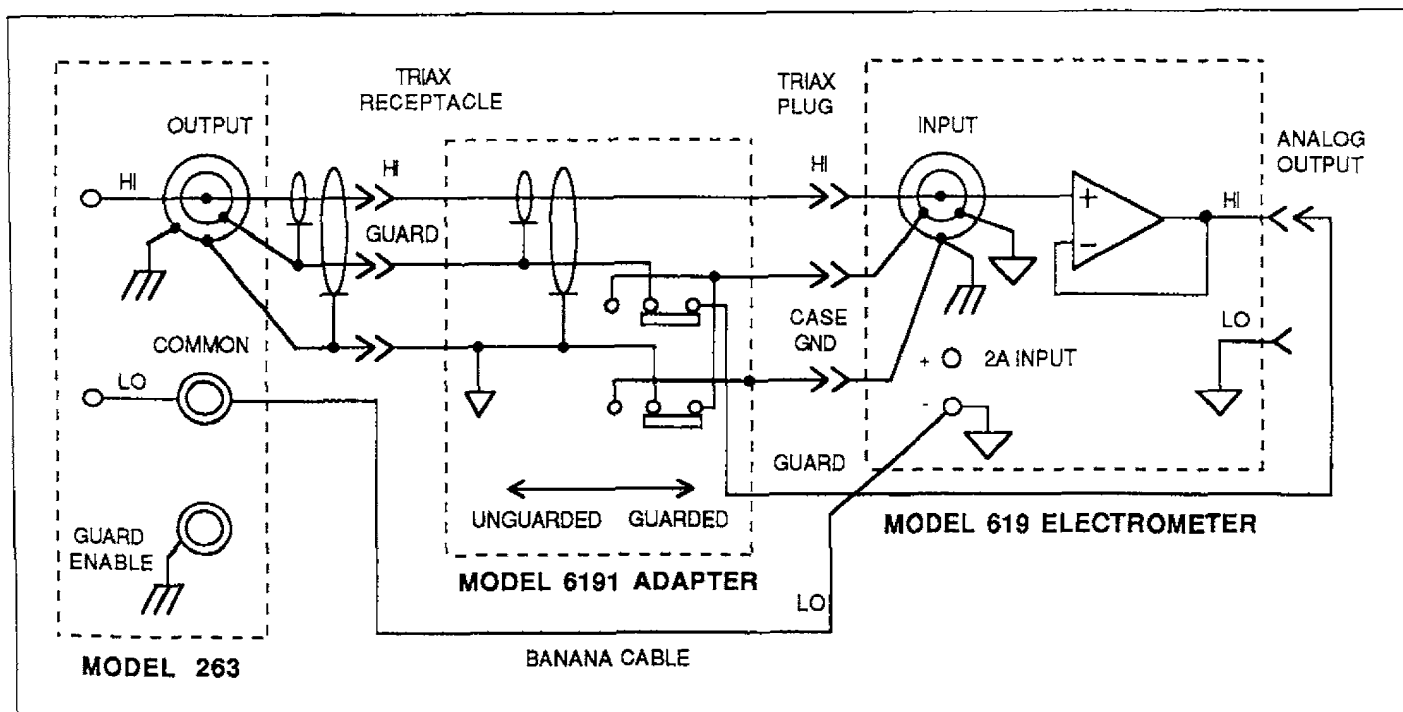

Figure 5-8. Sourcing Guarded Ohms to Electrometer Using an Input Adapter
3. 20G $\Omega$  Range Calibration (steps 11 and 12)—These steps use resistors that are installed in a shielded, guarded fixture that must be built. The actual resistance of this "ohms source" is then measured by a teraohmmeter (Guildline Model 9520). A much simpler alternative is to use the Model 263 to source 10G $\Omega$  to the Model 619. The Model 263 must be in the guarded configuration and connected to the Model 619 through the Model 6191 Guarded Input Adapter (see Figure 5-8).